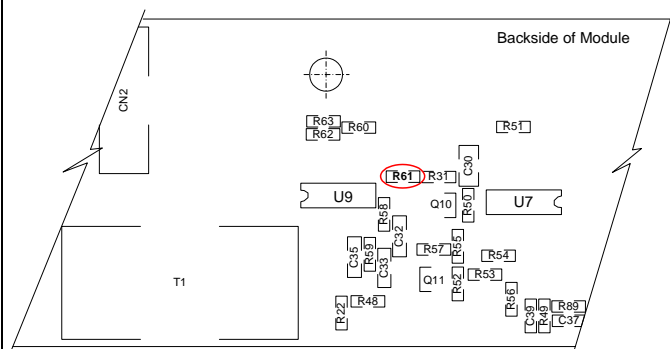

Figure 10 – Locating The Resistor on the LXM1621-xx
2. By making a resistor value change on the module. Remove R61 for maximum dimming range or increase R61 value to desired minimum dim range setting (see figure 10). Care should be exercised since at a low enough dim setting the inverter will be unable to detect that the lamp has started and will initiate lamp strike (kickoff) voltage. This will result in lamp flicker. For repeatable low light levels the BRITE input DC supply must be a very clean stable voltage source, at low dim inputs.